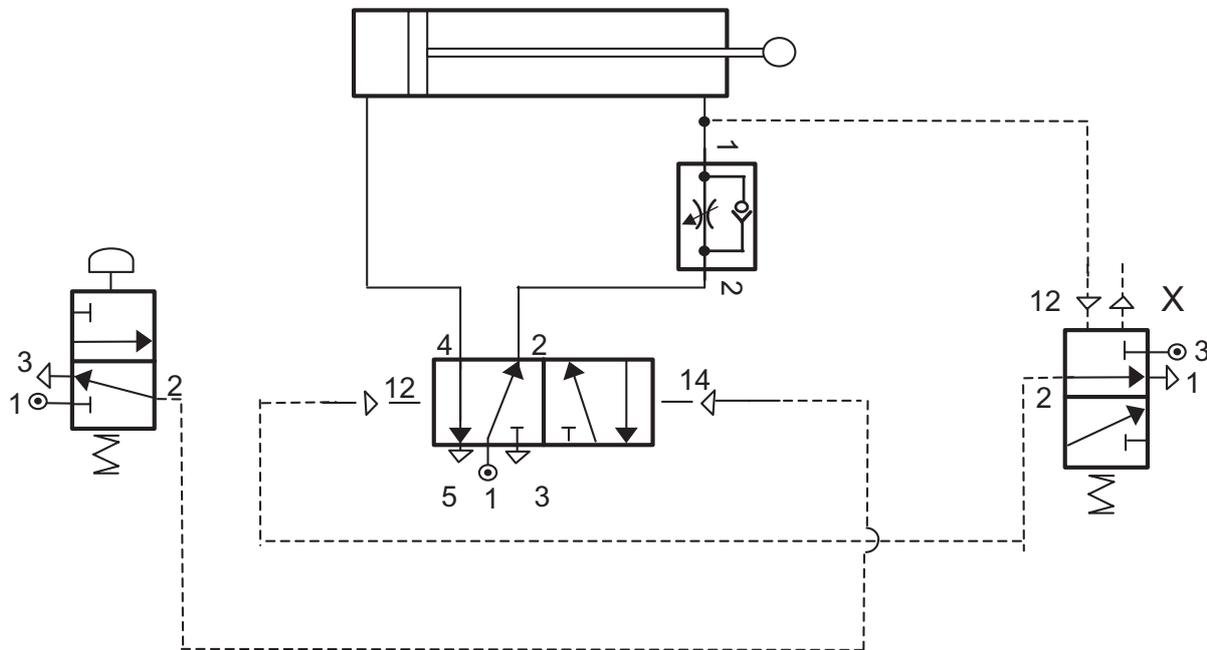

Fig. 4(a)
- (b) Fig. 4(a) below shows a circuit used to control the movement of a double acting cylinder for stamping boxes.
- (i) Explain how the circuit in Fig. 4(a) operates starting from when the push button 3PV is pressed. (Your answer should include a detailed explanation of the operation of component X.) [4]
- (ii) In order to determine a suitable compressor the air consumption for the double acting cylinder in Fig. 4(b) is to be calculated. Using the data below calculate the air consumption for the cylinder in litres per minute.